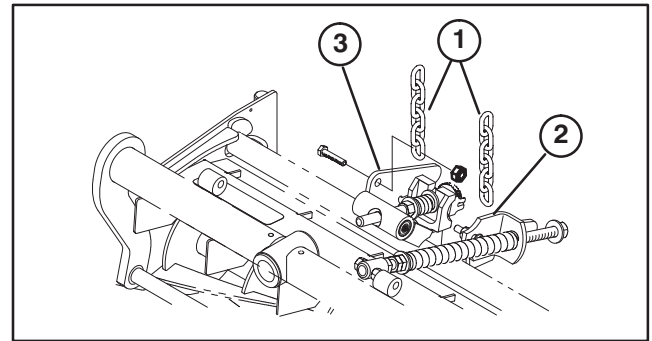

Figure 7
12. On front center cutting unit, remove nut securing turf compensation spring mounting bracket to left cutting unit stabilizer ear (Fig. 7). Insert left tipper chain onto capscrew and secure with nut removed.
13. Secure right tipper chain to right cutting unit stabilizer ears with a 3/8–16 x 1" lg capscrew and flange nut supplied in loose parts (Fig. 7).